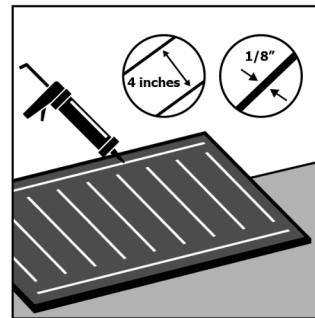

Figure 3
1. First place the panel on the work table with the non-printed side up, remove the protective film, apply the recommended adhesive taking into account that the bead should be no less than 1/8 inch thick, this can be controlled by the diameter of the hole in the cartridge applicator. **(Figure 3)**
2. The adhesive should be placed around the perimeter of the panel on all four sides at about 1 inch from the edge. Then apply vertical beads up and down the length of the panel at about 4 inches apart. **(Figure 3)**